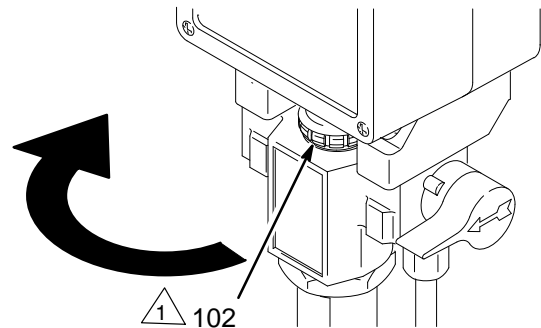

Fig. 9
1. **Check the packing nut/wet-cup daily (102).** Relieve pressure first. Keep the wet-cup 1/3 full of TSL at all times to help prevent fluid buildup on the piston rod and premature wear of packings.
2. **Tighten the packing nut/wet-cup (102) just enough to stop leakage.** Over-tightening causes binding and excessive packing wear. Use a round punch or brass rod and a light hammer to adjust the nut. See Fig. 9.